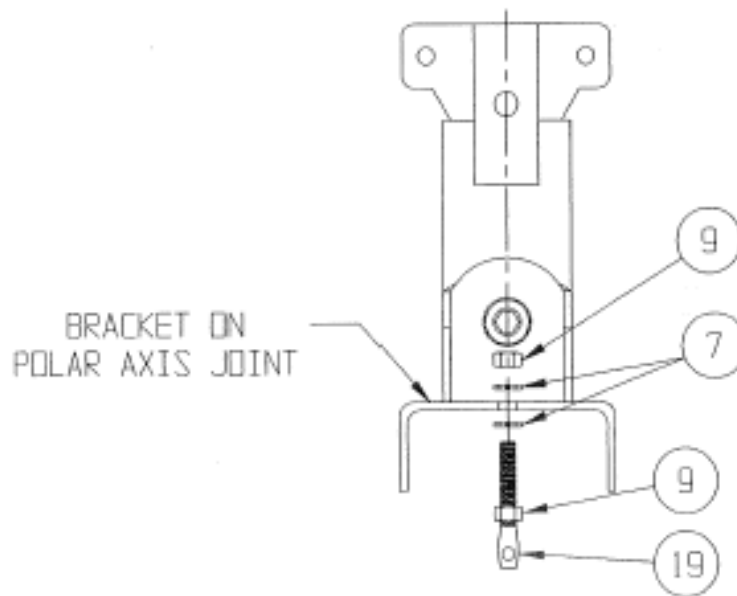

Figure 3.3-1
1. Bring the completed reflector assembly to the mast, and locate it about 1-1/2 to 2 feet from the mast. Make sure that the elevation bracket on the hub is oriented toward the top of the reflector away from the mast. Use the reflector carton (or similar object) as a rest under the edge of the reflector (see figure 3.3-1). Have the 1" hardware (item #'s 10,11,12) close at hand.